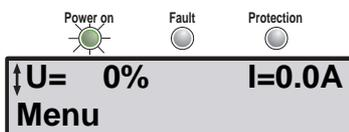

Figure 3: Top level
9. The green "Power on" LED is on and the LCD shall appear as in figure 3.